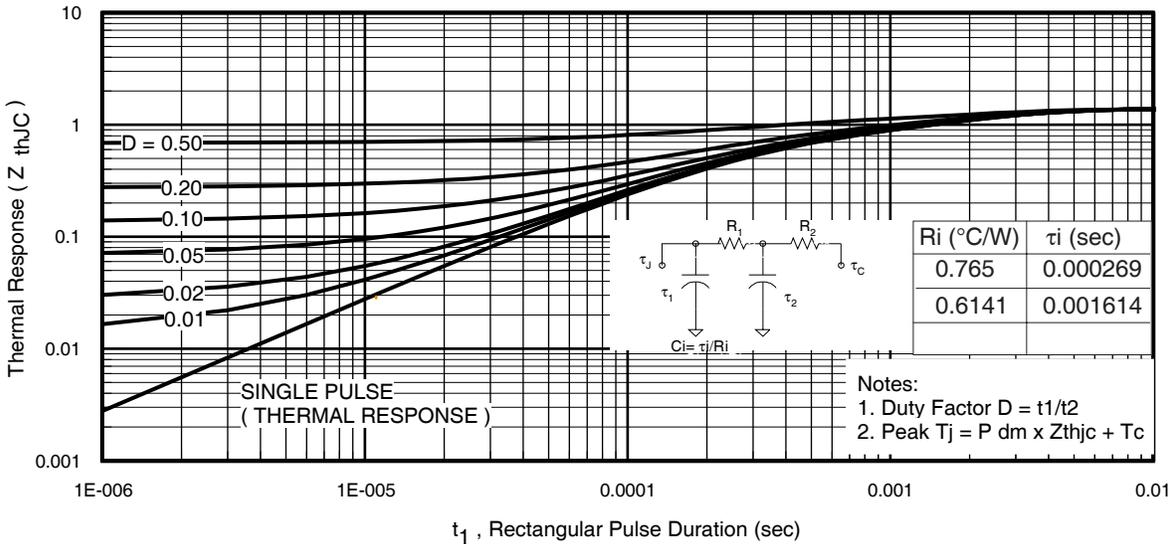
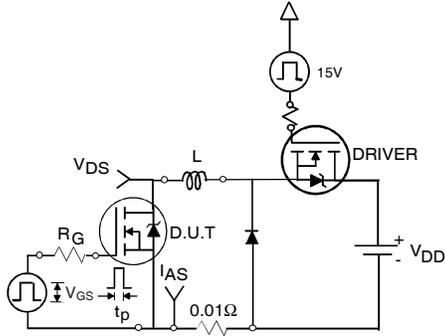

Fig 11. Maximum Effective Transient Thermal Impedance, Junction-to-Case
Fig 12a. Unclamped Inductive Test Circuit
3. Equation below based on circuit and waveforms shown in Figures 12a, 12b.
$Z_{thJC}(D, t_{av})$ = Transient thermal resistance, see figure 11)
- ① Repetitive rating; pulse width limited by max. junction temperature. (See fig. 11).
- ② Limited by T_{Jmax} ; starting $T_J = 25^\circ C$, $L = 0.089mH$, $R_G = 25\Omega$, $I_{AS} = 36A$, $V_{GS} = 10V$. Part not recommended for use above this value.
- ③ Pulse width $\leq 1.0ms$; duty cycle $\leq 2\%$.
- ④ C_{OSS} eff. is a fixed capacitance that gives the same charging time as C_{OSS} while V_{DS} is rising from 0 to 80% V_{DSS} .
- ⑤ Limited by T_{Jmax} , see Fig.12a, 12b, 15, 16 for typical repetitive avalanche performance.
- ⑥ This value determined from sample failure population. 100% tested to this value in production.
- ⑦ When mounted on 1" square PCB (FR-4 or G-10 Material) . For recommended footprint and soldering techniques refer to application note #AN-994
- ⑧ R_θ is measured at T_J approximately $90^\circ C$